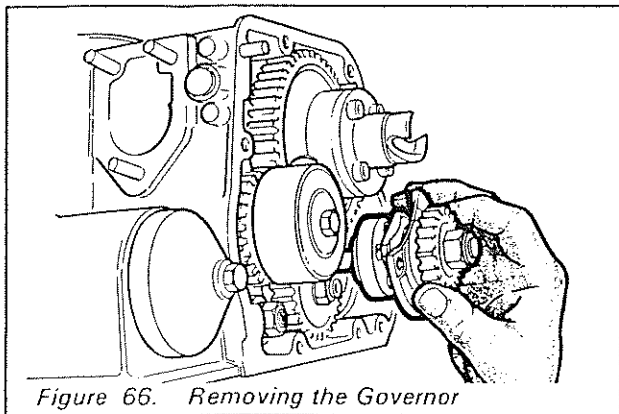

Figure 66. Removing the Governor
7. Turn the crankshaft sufficiently to ensure one of the 'flats' on the assembly will clear the camshaft pinion gear teeth as shown in Figure 66 on page 58.